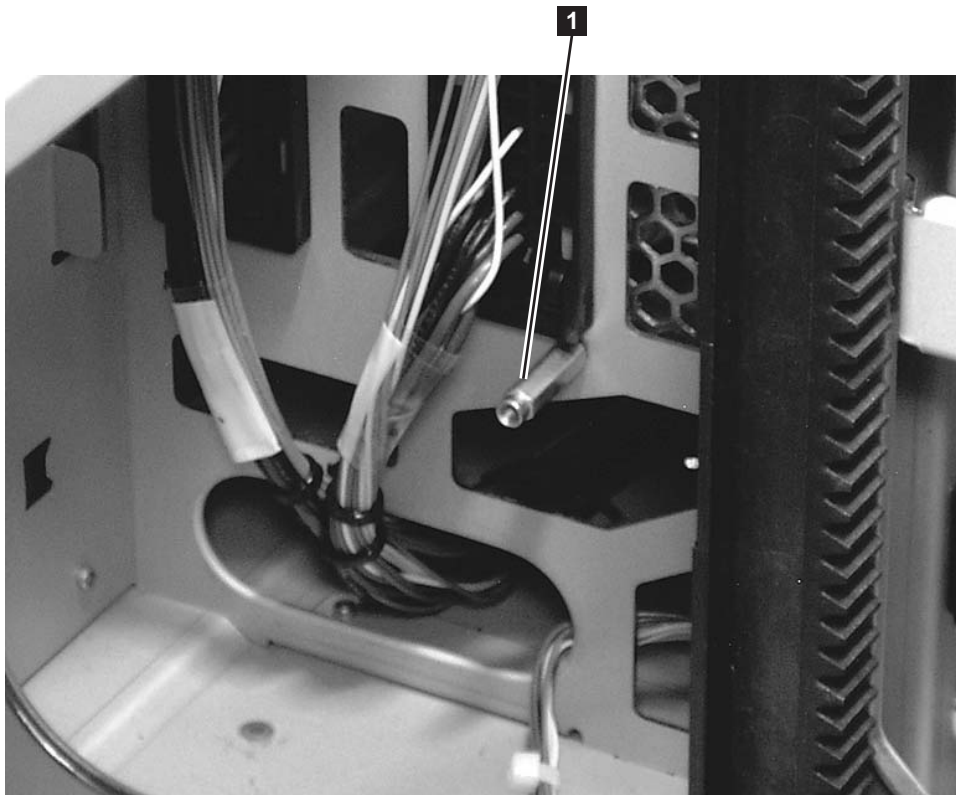

Figure 8-114. Hex stand-off behind the Cable Spool Assembly
- b. Remove the hex stand-off (see **1** in Figure 8-114 on page 8-106) from behind the Cable Spool Assembly. This requires a 5 mm (3/16-inch) wrench.